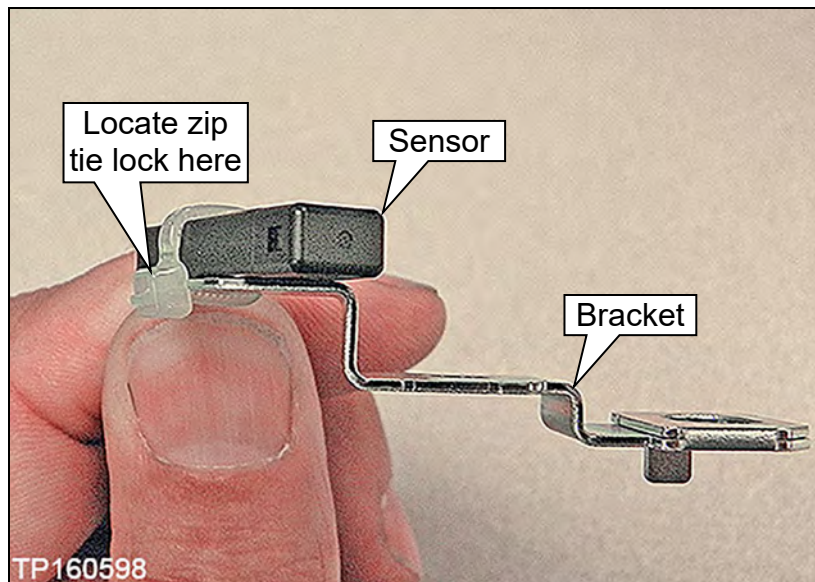

Figure 93
- Make sure the zip tie lock is configured as shown in Figure 93.
- Tighten the zip tie as shown in Figure 93 and 94.